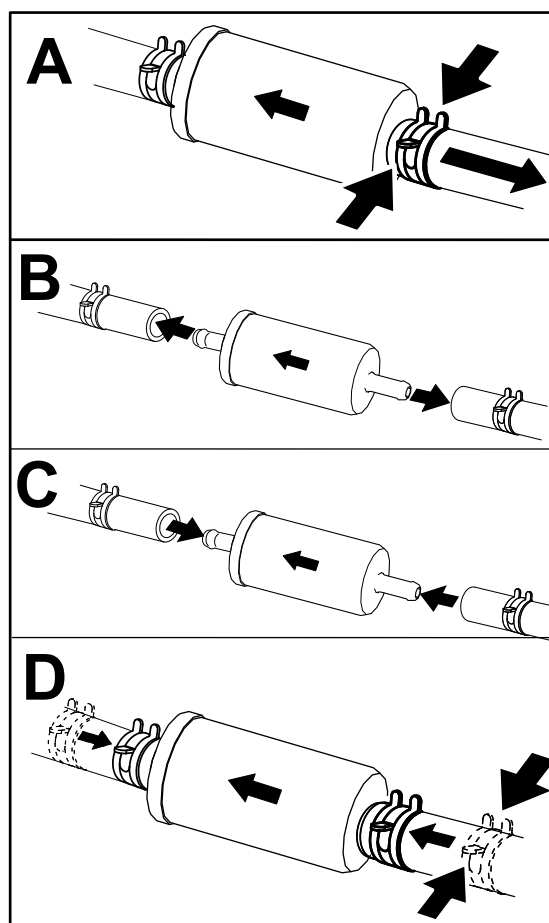

Figure 47
4. Replace the fuel filter as shown in Figure 47.